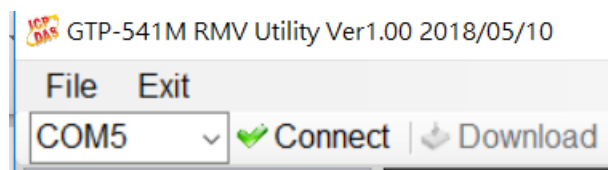
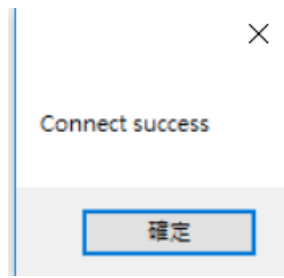
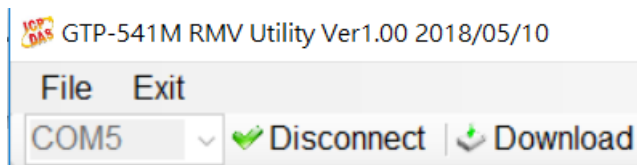

Figure 7.10.2
Figure 7.10.3
Figure 7.10.4
B. Click “Connect” on the Utility screen. As shown in Figure 7.10.2, if the connection is successful, “Connect success” will pop up and the “Connect” button will become “Disconnect”, as shown in Figure 7.10.3 and Figure 7.10.4.